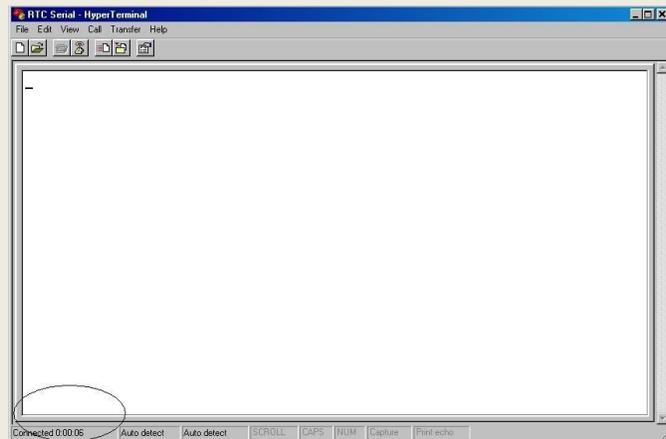

Fig. 11
5. The program will connect automatically. When it does, the screen below (Fig. 11) will appear. The status, Connected, should be displayed in the lower left corner of the screen. If it is, you are finished. If not, proceed to Step 6.